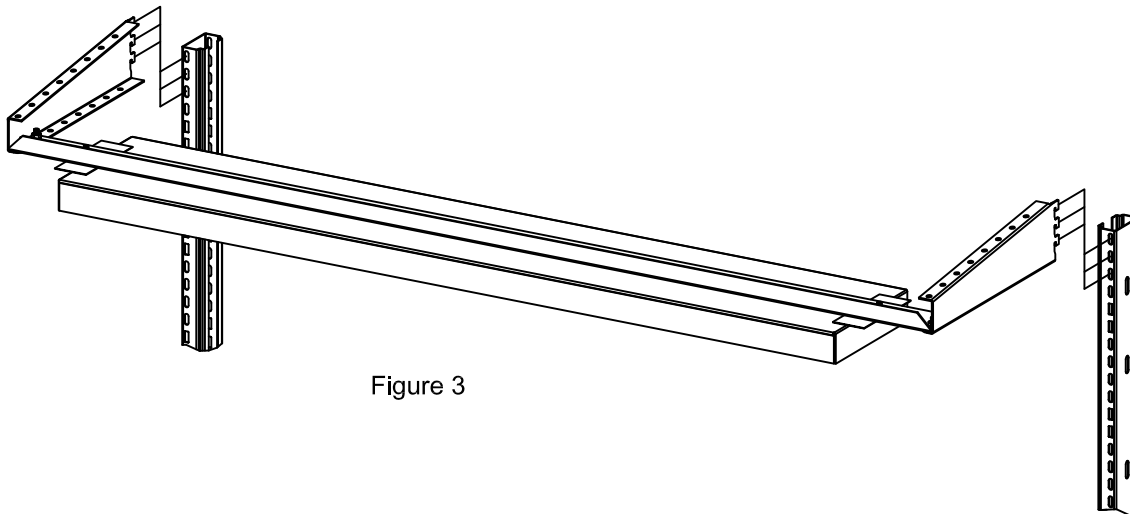

Figure 3
Step 3. Attach the completed assembly to the uprights on your bench by aligning the three hooks on each bracket with the slots in the uprights as illustrated in figure 3. Note: assembly can be adjusted on 1" centers.